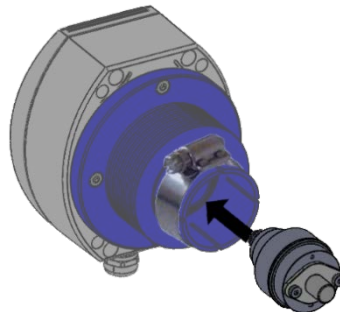

Figure 9-2 - Insert Sensing Module
3. Discard the zirconia sensing module (6); refer to 9.6 Disposal on page 9-9.
5. Align and install the new zirconia sensing module (6) to the head housing (1). Gently push to secure the module in place; refer to Figure 9-2.